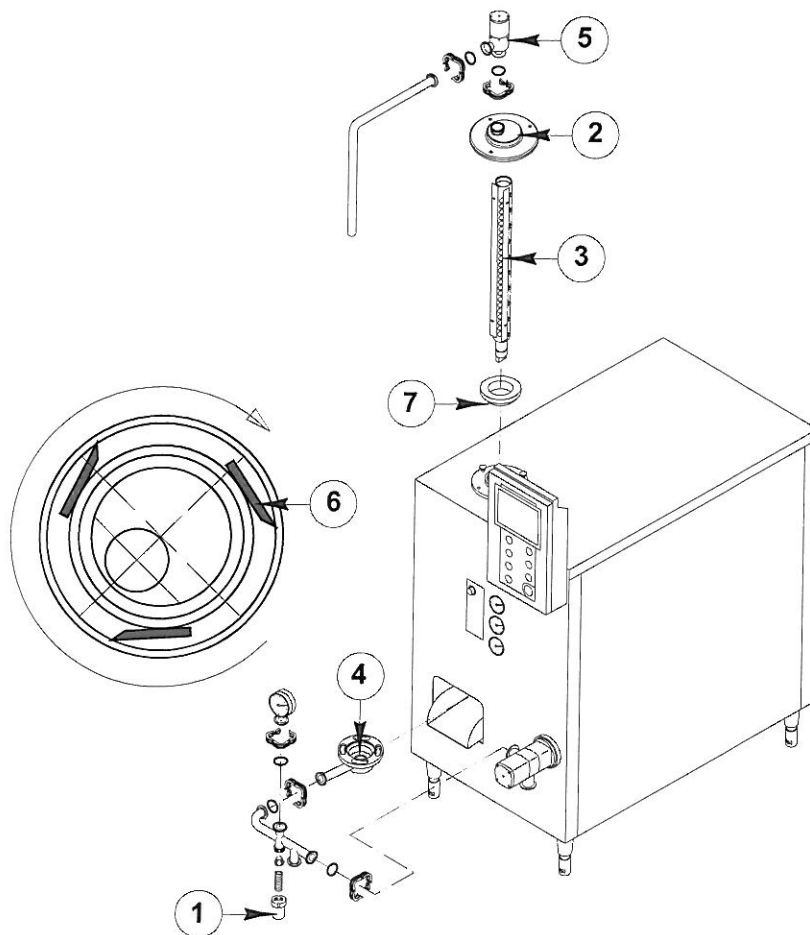

Fig. 6.6
- g. Open the safety valve (1) to drain the water contained inside the machine (*Fig. 6.6*).
- h. Remove the cover (2) by unscrewing the knobs holding it in place.
- i. Disconnect the pipes and the valve (5) on top of the cover.
- l. Remove the dasher (3) using the tool provided, and dismantle the blades (6). Wear strong non-slip gloves to protect against cuts from the blades.
- m. Dismantle the cylinder bottom (4).